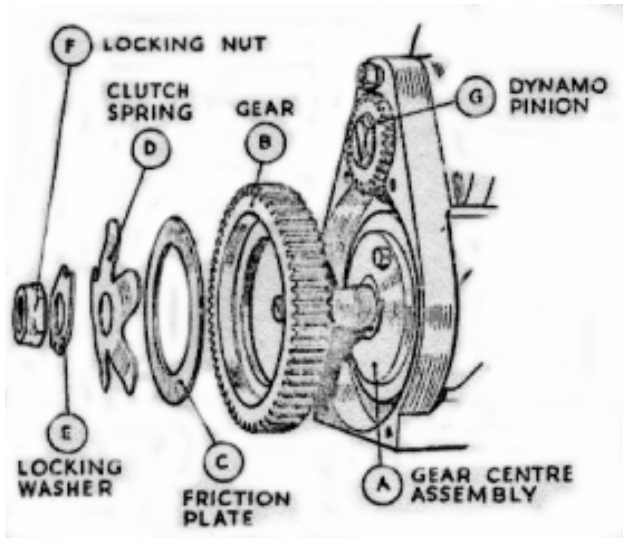
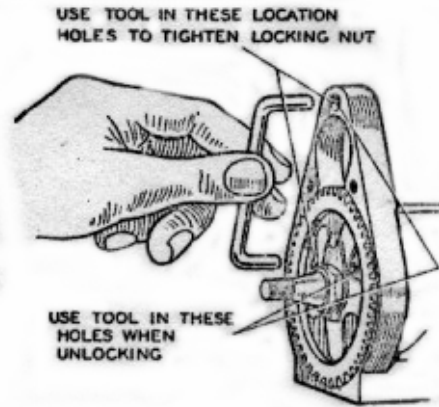
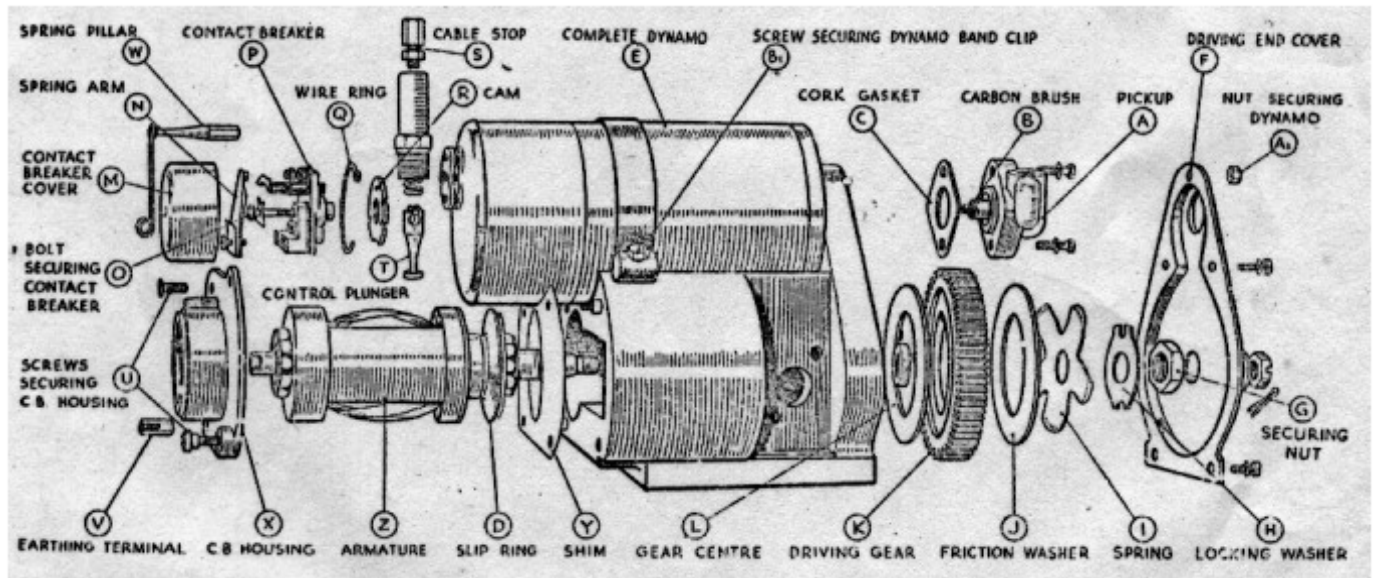

Fig. 49. Exploded view of components of the Slipping clutch.
Fig. 50. Slipping clutch showing the jig to lock the large gear.
Fig. 51. Exploded view of magneto portion of dynamo.
Examine the pick-up or high tension terminal (A, Fig. 51). See that the carbon brush (B) moves freely in its holder, being careful not to stretch the brush spring unduly. While the pick-up is removed, clean the slip ring track and flanges (D) by holding a soft cloth on the ring while the engine is slowly turned by means of the kickstart. When replacing the pick-up, do not forget to fit the cork gasket (C).
**A (7) Resistor and Immobiliser**
**A (9) Magneto Slipping Clutch (see Fig. 49).**
Remove the dynamo (E, Fig. 51) and take off the driving end cover (F) by unscrewing the four countersunk head screws. To dismantle the slipping clutch it will be necessary to use a jig (Fig. 50) to hold the larger gear whilst the securing nut is being undone. This consists simply of a length of  $\frac{1}{4}$ " diameter mild steel rod bent to a flat U, the ends being cut short with their centres  $3\frac{3}{16}$ " apart, so that one can be slipped in the hole in the wheel while the other is engaged with the hole in the top of the casting through which the dynamo securing stud usually goes. The  $\frac{7}{16}$ " box spanner can then be used on the securing nut (G, Fig. 51) which unscrews in the normal left-hand direction. Note that the tab of the locking washer (H) must be bent back first. Remove the locking washer (H), clutch spring (I), friction washer (J), driving gear (K) and gear centre (L).
the screws (U, Fig. 51), earthing terminal (V), and pillar (W) from the contact breaker end plate (X) and remove the plate from the magdyno, together with shims (Y). The armature (Z) can then be drawn out of the machine. There is no need to put a keeper
If test apparatus is not available, a rough check of the armature windings can be made by means of a two volt battery (a tapping across one cell of the motor cycle battery), and an ammeter. Screw the contact breaker retaining screw (O, Fig. 51) into the end of the armature shaft. Connect one terminal of the battery, with the ammeter in series, to the screw. Connect the other battery terminal to the metal body of the armature. The ammeter will then record the current taken by the primary winding – this should be approximately four amperes. To check the secondary winding of the armature, wrap the bared end of a length of H.T. cable round the brass insert of the slip ring and hold the other about one-eighth from the armature core. If the lead from the battery which was connected to the core is then flashed quickly on and off the core, a spark should occur between the H.T. cable and the core.
**A (15) Re-assembling and Testing Slipping Clutch**
Key the gear centre (A, Fig. 49) on to the spindle, replace the driving gear (B), friction washer (C), clutch spring (D), locking washer (E) and secure by tightening the fixing nut (F). The U shaped jig (Fig. 50) must be used to prevent rotation of the shaft while tightening the nut. After assembling, the setting of the clutch must be checked. This can easily be done by locking the driving gear and applying a
After setting, by slackening or tightening the securing nut (F, Fig 49) prevent further movement by bending up the tab of the lock washer (E). Refit the dynamo and pack the gears with high melting point grease. Secure the drive end cover in position with the gasket
Take off the connections from the dynamo terminals, unscrew the hexagon headed nut (A1, Fig 51) from the driving end cover of the magdyno, slacken the two screws (B1, Fig 51) securing the band clip and draw the dynamo out of its mounting.